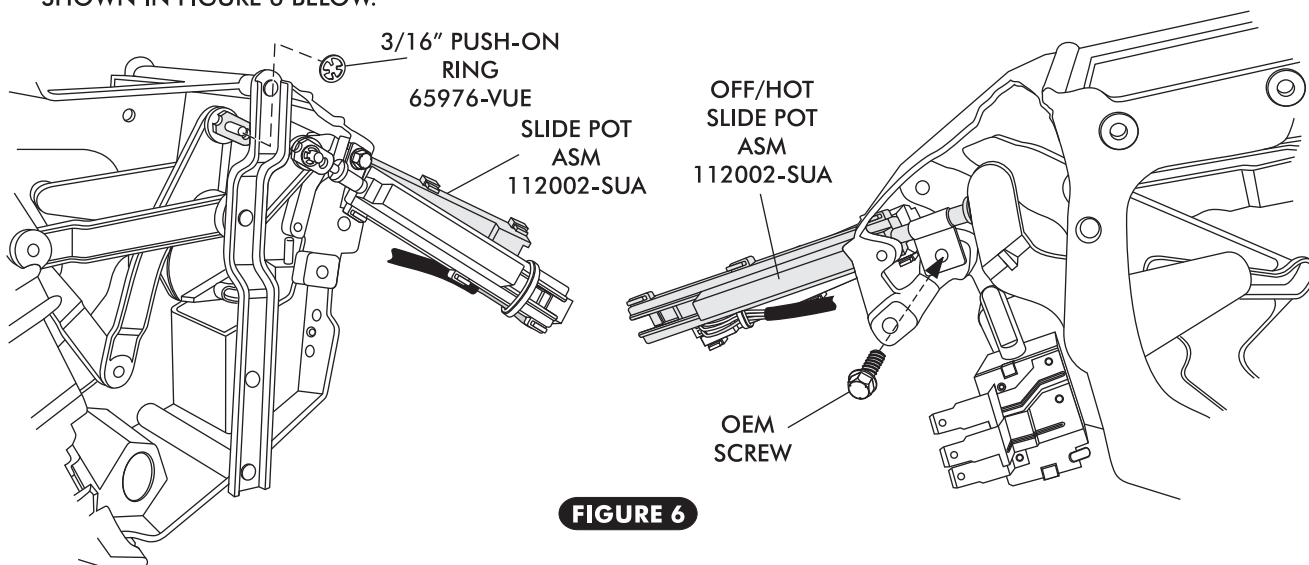

FIGURE 6
- ☐ INSTALL SLIDE POT ASM ON THE OFF/HOT LEVER. SEE FIGURE 6 BELOW.
- ☐ INSTALL SLIDE POT LEVER PUSH ROD ONTO OEM CABLE MOUNTING STUD ON LEVER. SEE FIGURE 6 BELOW.
- ☐ SECURE THE SLIDE POT ASM TO THE CONTROL PANEL USING THE OEM SCREW IN THE OEM CABLE CLAMP MOUNTING LOCATION. SEE FIGURE 6 BELOW.
- ☐ SECURE SLIDE POT LEVER PUSH ROD ONTO OEM CABLE MOUNTING STUD USING 3/16" PUSH-ON RING AS SHOWN IN FIGURE 6 BELOW.